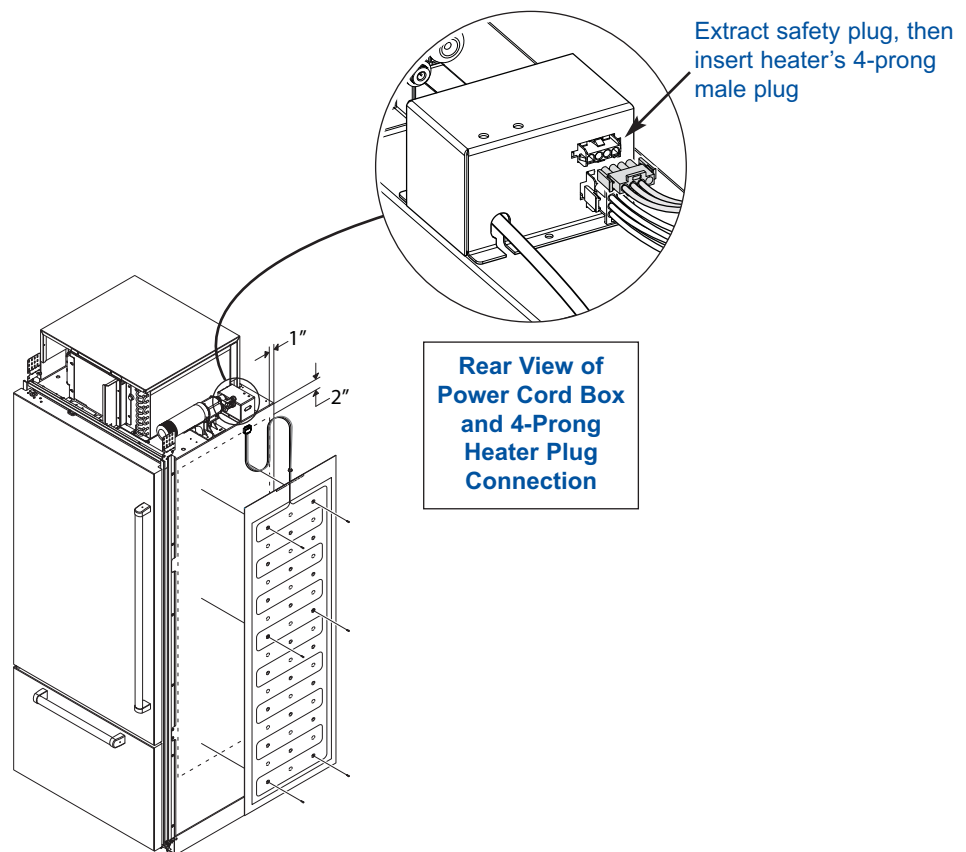

Figure 1. Heater Installation
2. Place heater against right side of unit with wires up and foil side in, positioning the heater 2" (51mm) from top edge of cabinet and 1" (25mm) from back edge of cabinet (See Figure 1).
6. Locate the panel mount 4-prong female receptacle at back side of power cord box, extract empty male safety plug from female receptacle, then insert heater's 4-prong male plug into female receptacle (See Figure 1).